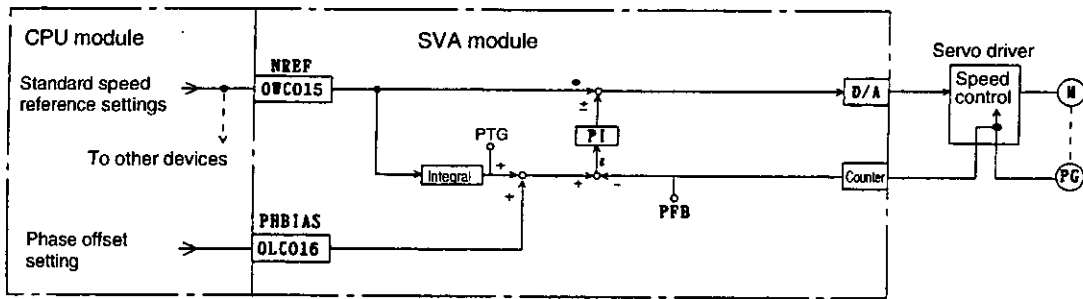
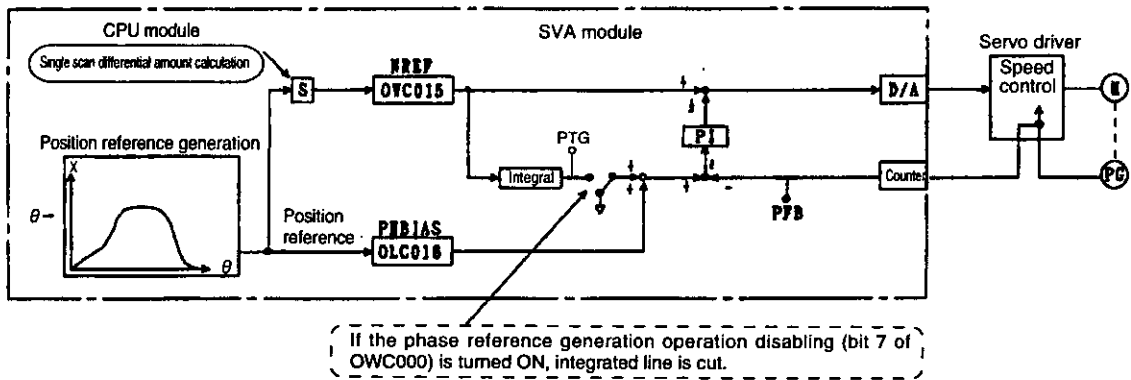

Fig. 3.47 Phase Control Loop Block Diagram
Fig. 3.48 Electronic Cam Control Loop Block Diagram
Applying phase control, an electronic cam control loop can be constructed. Regular phase control generates position references based on integrating the standard speed references in the SVA module (refer to Fig. 3.47). On the other hand, the electronic cam control loop cuts the integrated line of standard speed references, and provides position references from the phase offset setting value (refer to Fig. 3.48).
Figs. 3.47 and 3.48 show block diagrams for the phase control loop and the electronic cam control loop.
- In Figs. 3.47 and 3.48
Figs. 3.49 and 3.50 are examples of using a programming language to show the control loop block diagrams in Figs. 3.47 and 3.48.